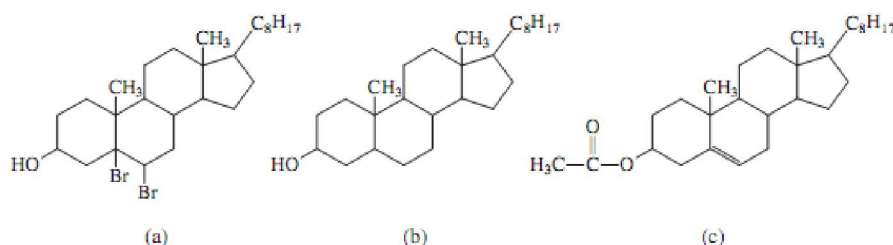

Figure 11.20
- (c) The acetic acid (CH_3COOH) reacts with the hydroxyl group to form an ester and water. Figure 11.20 shows the products of these reactions.